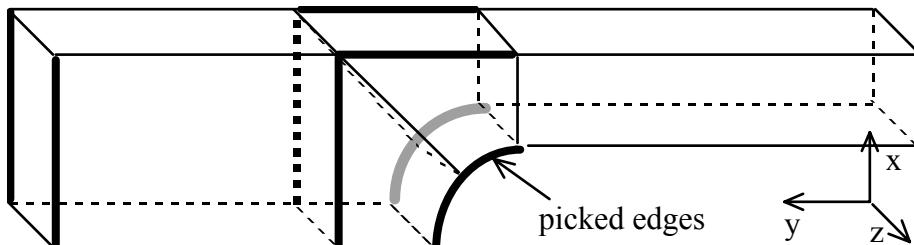

Figure 3.4. Ten collected edges for four subdivisions.
Step 3: Collect the lines shown in Figure 3.4; the subdivision points are presented in the form of highlighted vertices along each edge that is collected. Select **FINISH** when all the edges are collected.